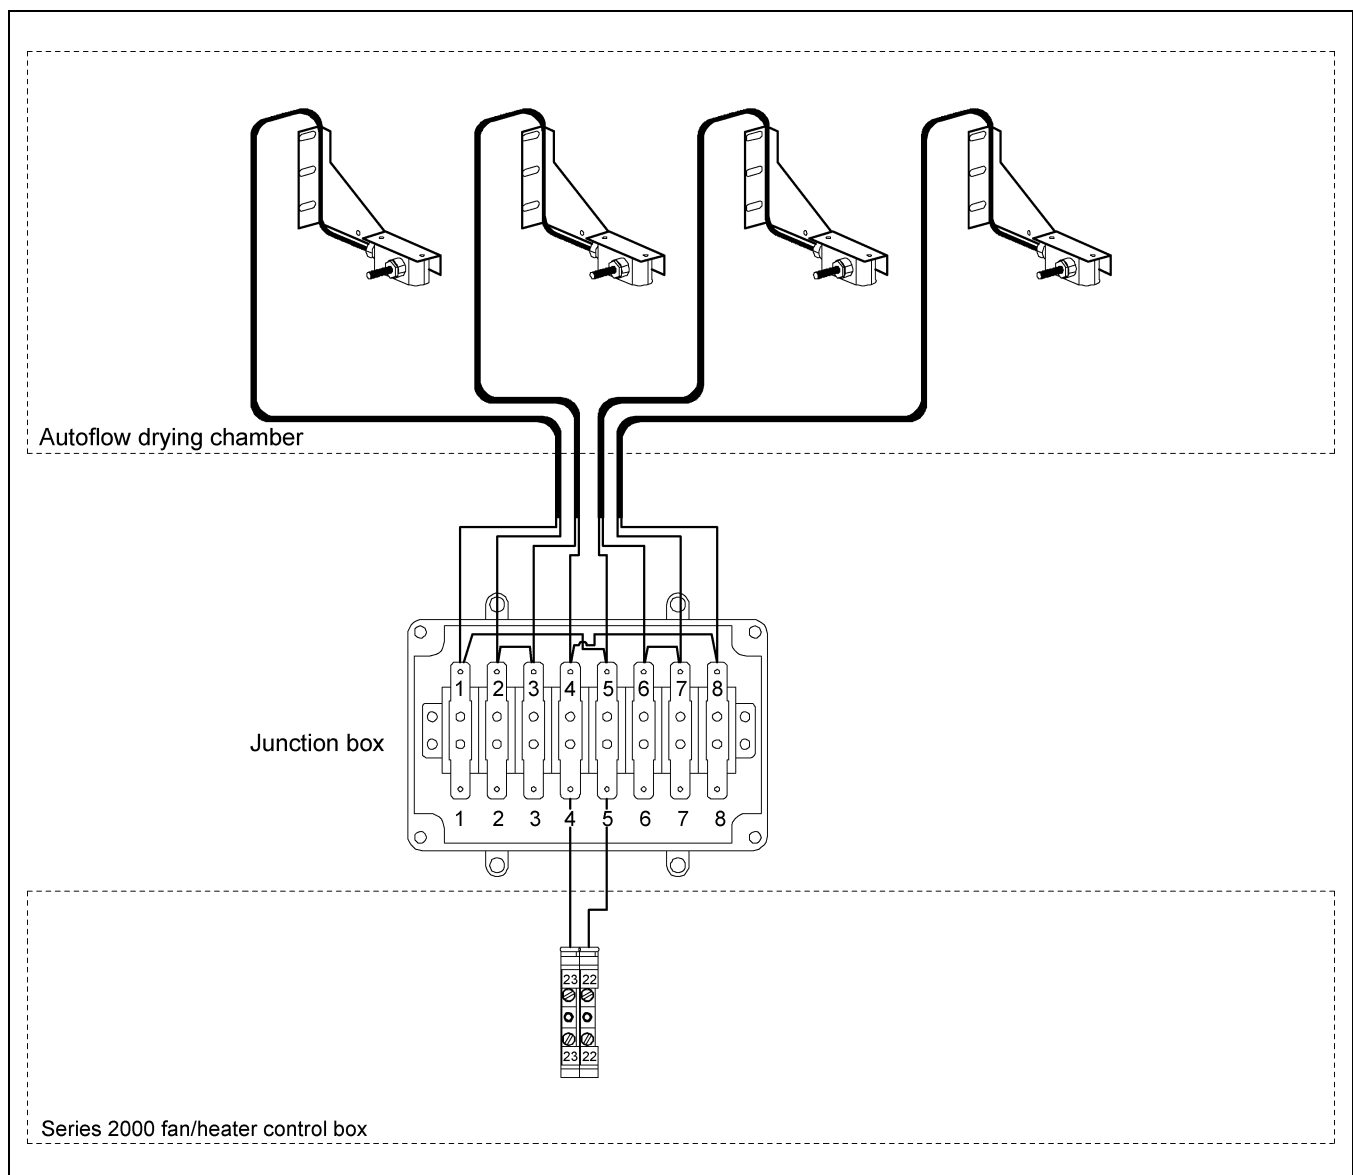

**Figure 3G Bolt Pattern to Drill Holes for the Actuator Control Box**
4. Use the pattern in *Figure 3G on Page 16* to drill holes for the actuator control box.
6. Use four (4) 5/16" x 1-1/4" bin bolts and washers with bolt heads to the inside of the bin.